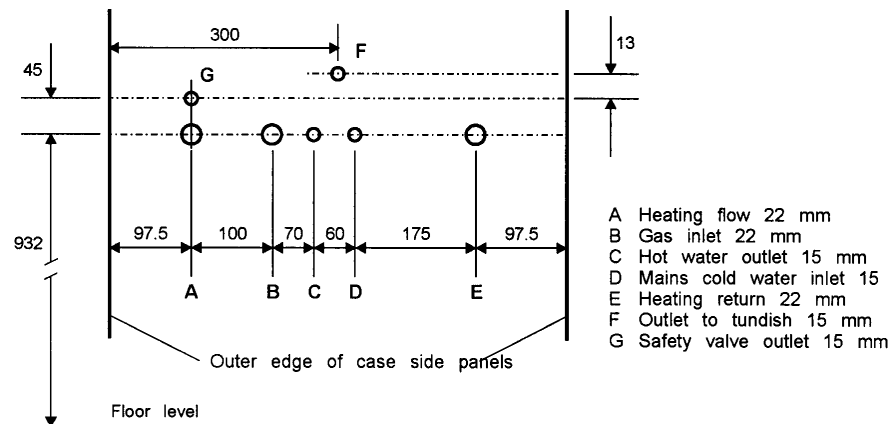

Fig. 2 - Connections as viewed from front of boiler
2.9 WATER AND GAS CONNECTIONS (See Fig. 2)